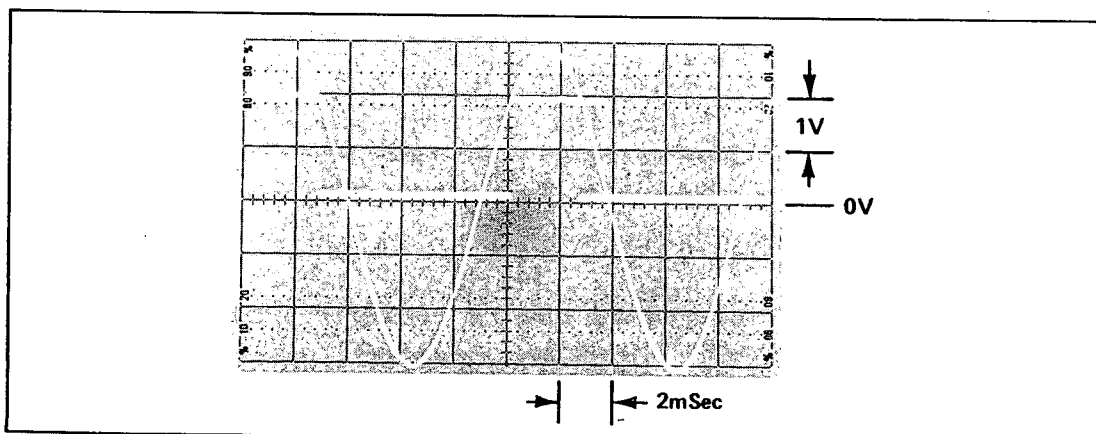

Figure 4-24. Triggering Level Test Waveforms — II
- i. Adjust the Oscilloscope's Channel "B" controls so the top of the Model 5328B's Channel "B" MARKER OUTPUT waveform just barely intersects the positive-slewing and negative-slewing portions of the 100 Hz sine wave as shown in *Figure 4-24*. Verify that this occurs at +2 volts on the 100-Hz sine wave.